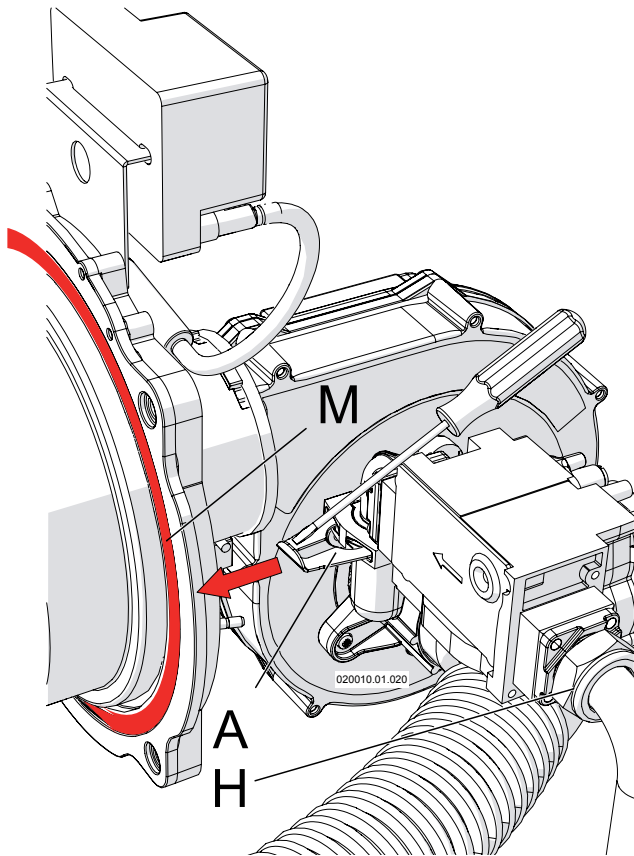
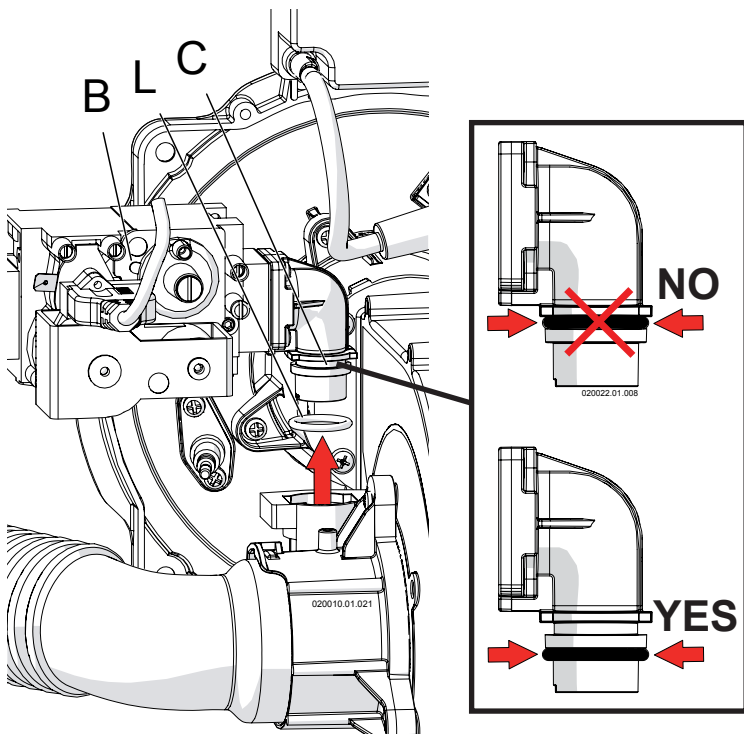

Figure 16-5 - Nut and spring that fixes the gas valve
Figure 16-6 - Remove the gas valve
- 7.- Unscrew nut "H" (Figure 16-5). Pay attention to the gasket between nut "H" (Figure 16-5) and the gas valve;
- 8.- Take away the spring "A" as per Figure 16-5. Help yourself with a screwdriver;
- 10.- Remove the gas valve from its position (see Figure 16-6). Take care attention to the o-ring "L" of Figure 16-6;
- 17.- Replace gasket “M” as per Figure 16-5 (Part number for this gasket is in Section 18). Take care that the gasket and its site are clean.
! WARNING!!! Pay attention to the gasket “M” (Figure 16-5) during reassemble. When finished, perform a leakage test with the burner firing. Always use an approved leak detection method. Failure to comply with this warning can cause fire, extensive property damage, severe personal injury or death!
- 18.- Reassemble the components by proceeding in reverse order. Pay attention in the reinstalling of gasket “H” of Figure 16-5 and of the o-ring “L” of Figure 16-6. These must be in good condition. If not they must be replaced with;